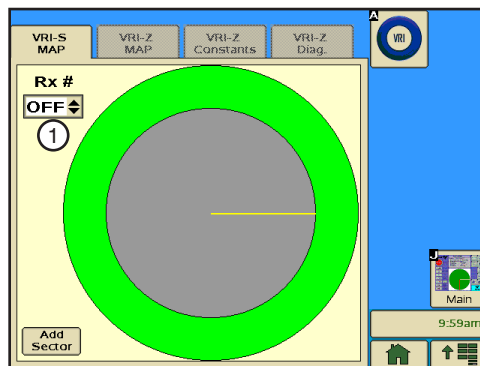

Figure 48-3 VRI Map Screen
1. Push **Options, VRI**, to display the VRI-S screen. Refer to Figure 48-3.